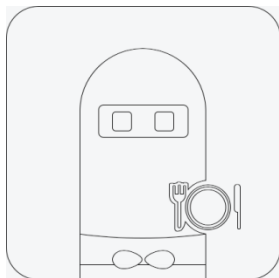

Figure 4 Icon of the PEANUT APP
- ① After booting the power switch, the system desktop will display the startup LOGO, PEANUT animation and Android desktop in sequence, and the system booting duration is about 40s.
- ② Under the default setting, the system will start the PEANUT APP automatically after it is booted. If the system fails to boot the PEANUT APP, please find the PEANUT icon on the desktop, as shown in Figure 4,